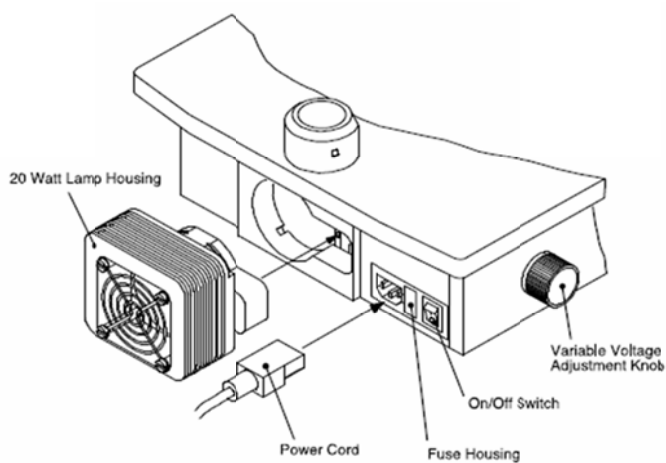

Figure 3
Light intensity is adjusted by the knob on the left side of the base. (Figure. 3)
**Important:** Switch off the Light source from the back of the light source as indicated in (Figure. 3).
At the back of the light source, pull out the lamp housing as indicated in Figure 3.